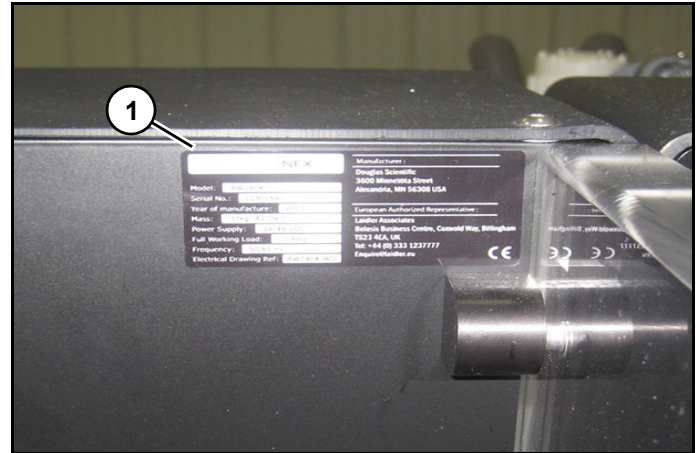

Figure 1
Each module has a plate (1) (*Figure 1*) indicating module weight and serial number.